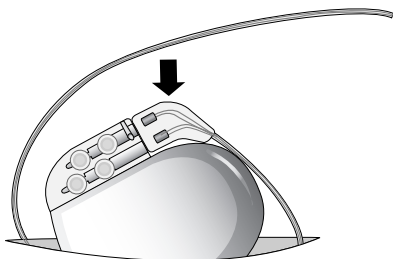
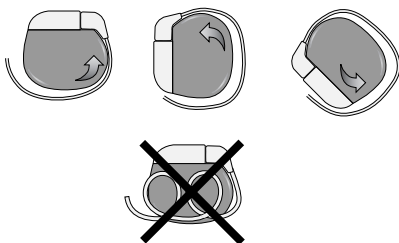

Figure 20. Implant neurostimulator.
Figure 21. Wrap excess wire around the perimeter of the neurostimulator.
3. Place the neurostimulator into the subcutaneous pocket (Figure 20). Position the neurostimulator so that no sharp bends occur along the extension or lead (Figure 21).
△ **Caution:** Do not loop or coil the extension on top of the neurostimulator's etched identification side. Wrap any excess extension wire around the perimeter of the neurostimulator (Figure 21). This avoids any increase in subcutaneous pocket depth, minimizes potential damage during replacement surgery, and minimizes potential kinking of the extension wire.